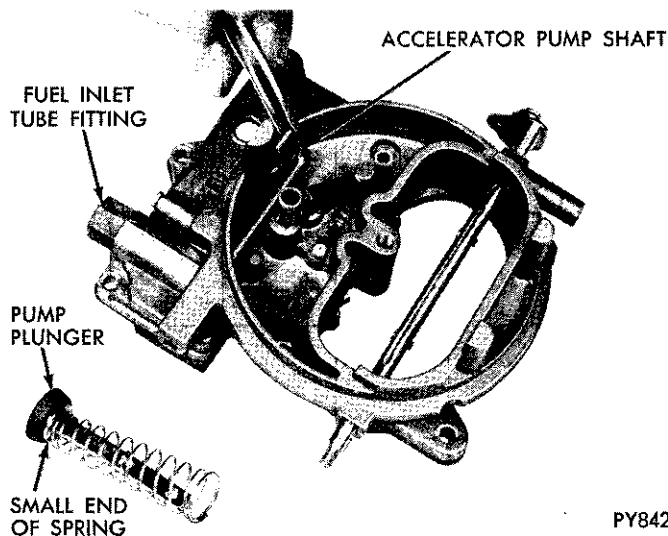
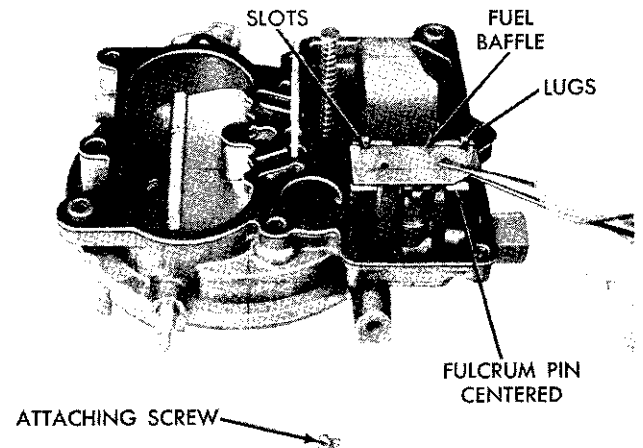

Fig. 8—Removing or Installing Accelerator Pump Shaft
Fig. 9—Removing or Installing Fuel Baffle
(9) Slide accelerator pump shaft out of air horn. (Fig. 8).
(10) Remove fuel inlet fitting and gasket from air horn.
(11) With air horn inverted, remove screw that attaches fuel baffle to air horn (Fig. 9).
plunger. Install pump shaft in air horn (Fig. 8).
(6) Install float in position, then slide nylon fulcrum pin through float hinge to retain float. Center fulcrum pin (Fig. 9).
(7) Install fuel baffle on bosses with slots engaged lugs. Install attaching screw and tighten securely (Fig. 9).